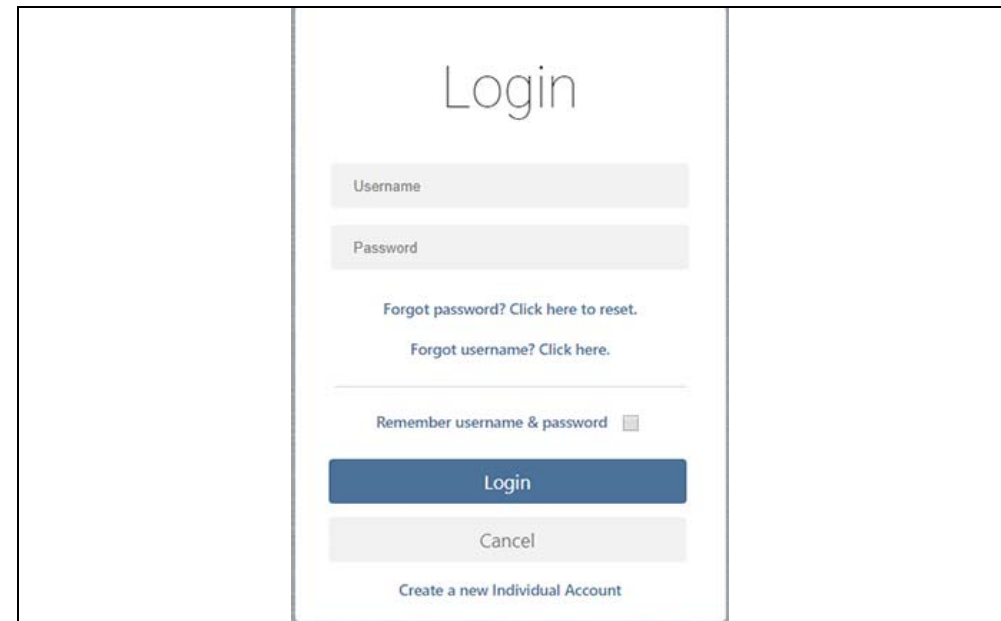

Figure 12-4
3. Log in using your **Username** and **Password** (Figure 12-4).